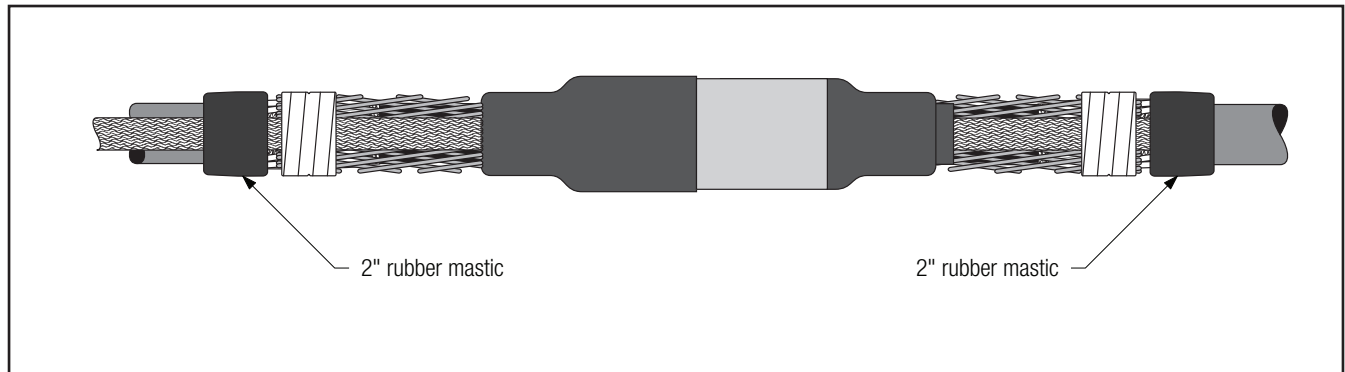
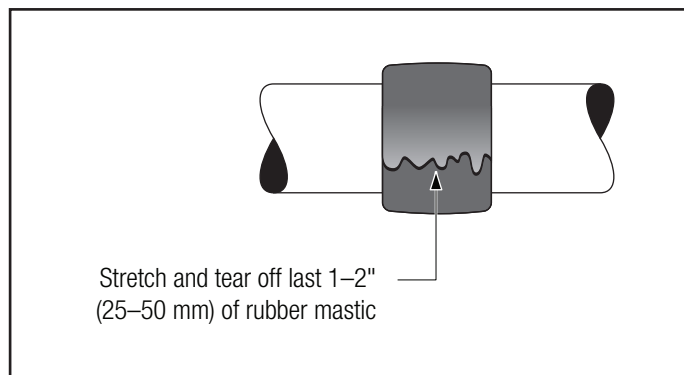

Figure 21
Figure 22
- 6.1 Wrap a roll of slightly stretched Scotch® Rubber Mastic Tape 2228, 2" x 36" around cable jacket ends (tacky side toward cable) (*Figure 21*). If grounding was applied, apply tape over mastic strips at solder block. Stretch and tear off last 1–2" (25–50 mm) of mastic (*Figure 22*).